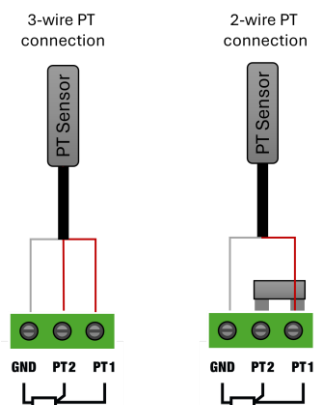

Figure 6: PT Sensor Connection (2-wire / 3-wire)
- **PT100 / PT1000 Temperature Sensor Input:** Figure 6